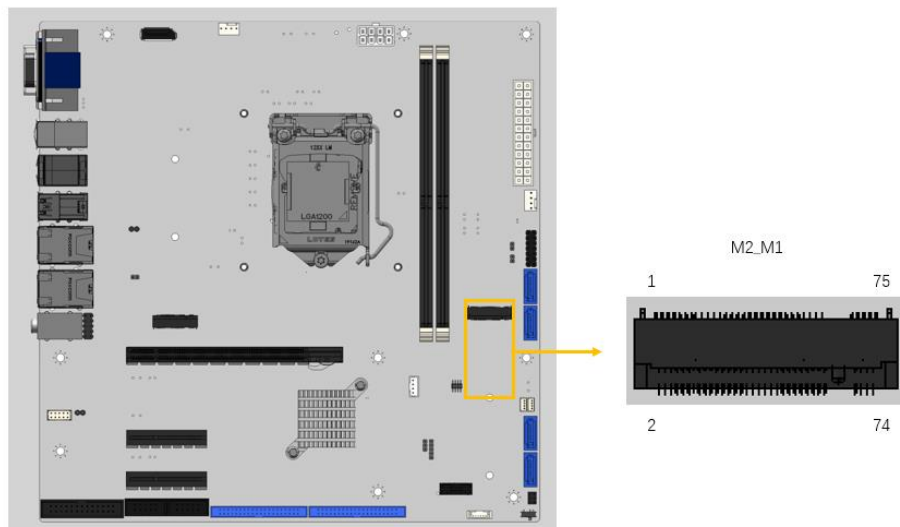

Figure 3-23: M.2 M-key Slot Location
- CN Pinouts:** See Figure 3-23
- CN Location:** See Figure 3-23